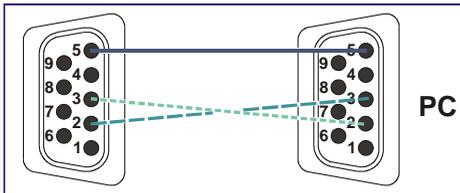

Figure 6: Crossed Cable RS-232 Connection
**Method A** (Figure 6)—Connect the RS-232 9-pin D-sub port on the unit via a crossed cable (only pin 2 to pin 3, pin 3 to pin 2, and pin 5 to pin 5 need be connected) to the RS-232 9-pin D-sub port on the PC.